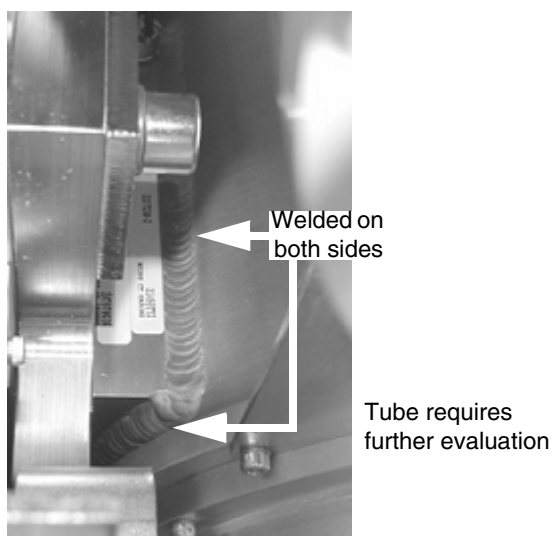

Figure 10 - Weld seen on both sides
- a.) If the welds are seen on both sides, as shown in Figure 10, then your tube casing is suspect. You must continue with Section 1.5 - SmartSpeed Option Check.